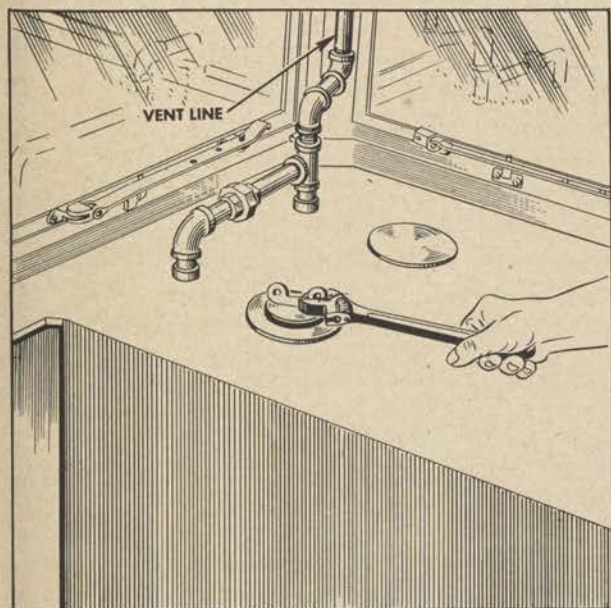

Figure 55. Removing filler cap from gasoline storage tank.
(8) *Gasoline storage tank (fig. 55).* Remove the cap from gasoline storage tank located forward of the galley on the starboard side of engine room. Fill tank to the capacity required for operational need.